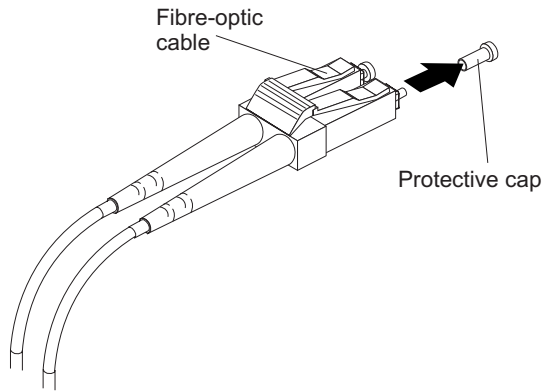

Figure 38. Removing fiber-optic cable protective caps
3. Remove the two protective caps from one end of the LC-LC cable, as shown in Figure 38 on page 62. Save the protective caps for future use.